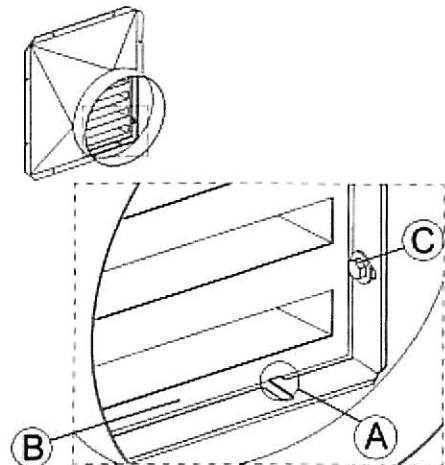

Figure 5-13. Air Adjustment Plate
2. The protruding lips (A, Figure 5-13) next to bolt groove (C) have to touch heat exchanger end wall (B). Push four plates firmly into place against heat exchanger and tighten bolts.